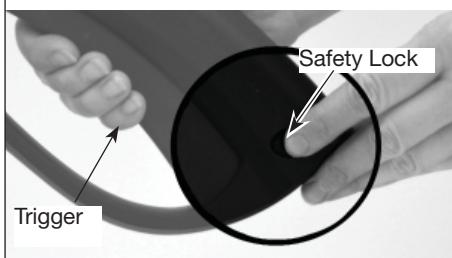

Figure 17 - Trigger safety latch
In the engaged position, the trigger safety latch prevents the gun from being triggered accidentally. Push the latch fully up to engage it (See Figure 17).
- Unlock trigger lock by moving lock right to left. (Figure 17)